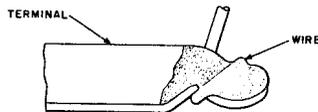

FIGURE 6. Example of Properly Soldered Connection
- 7.03 Only a small amount of solder is needed to make the joint illustrated in Figure 6, which shows a thin coat of solder spread smoothly over the wire, completely covering it. If too much solder is used, a lumpy connection will result which may cause trouble.